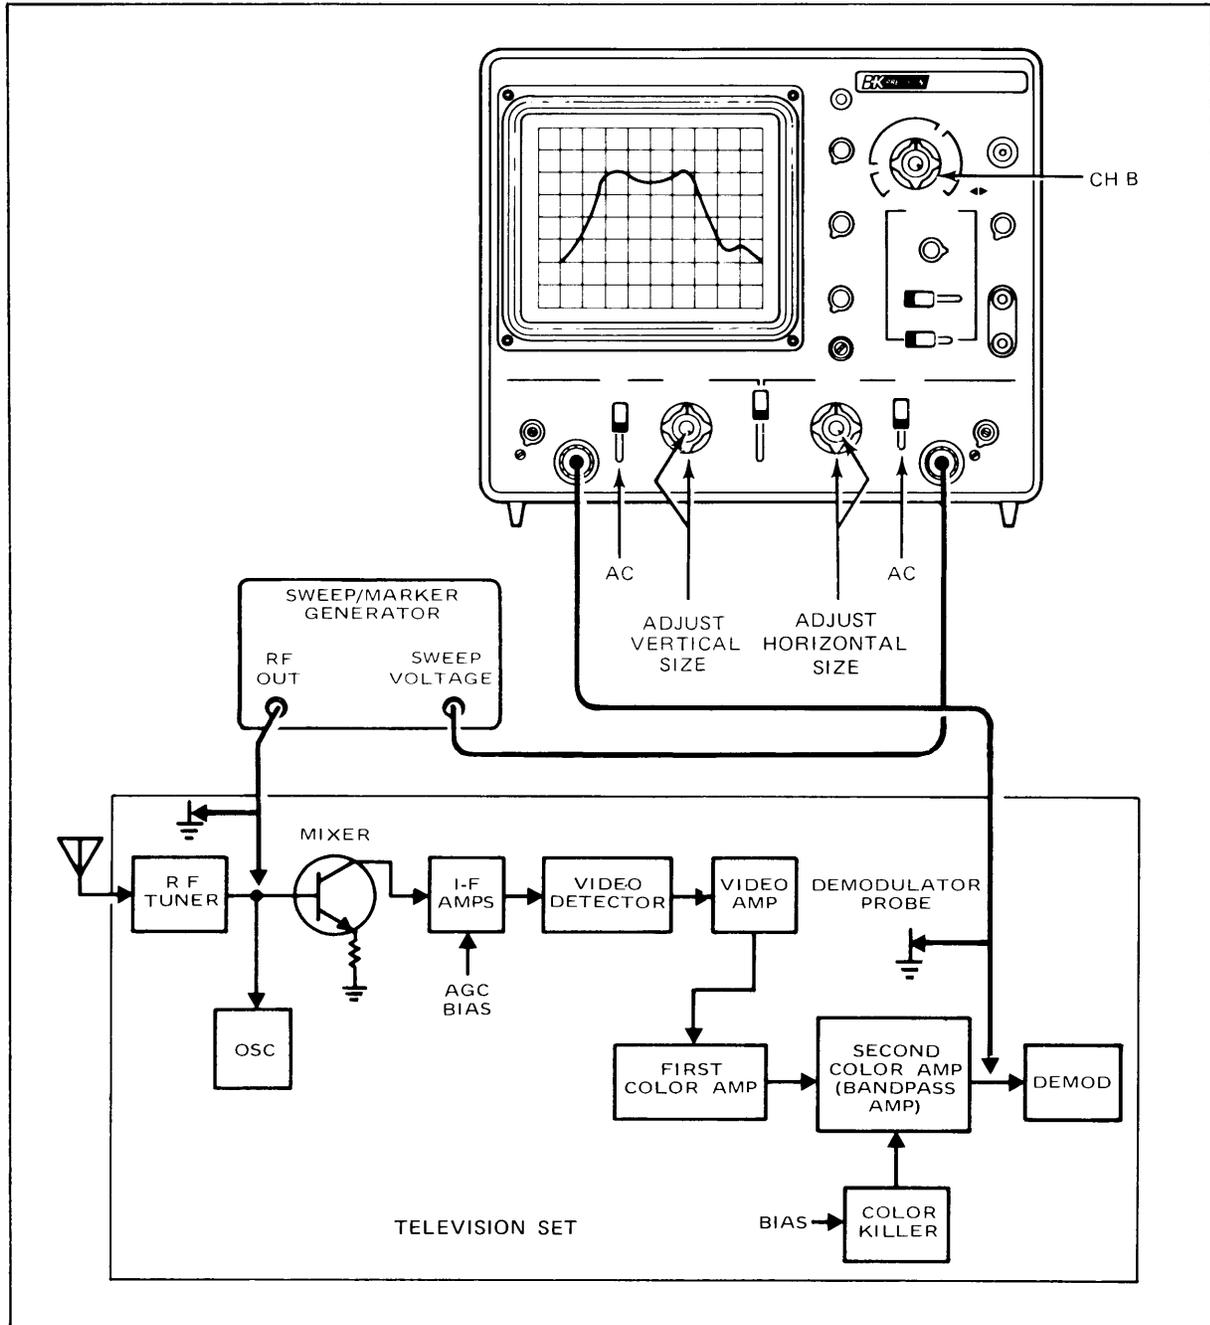

Fig. 36. Typical chroma alignment set-up.
**CHROMA ALIGNMENT (Refer to Fig. 36)**